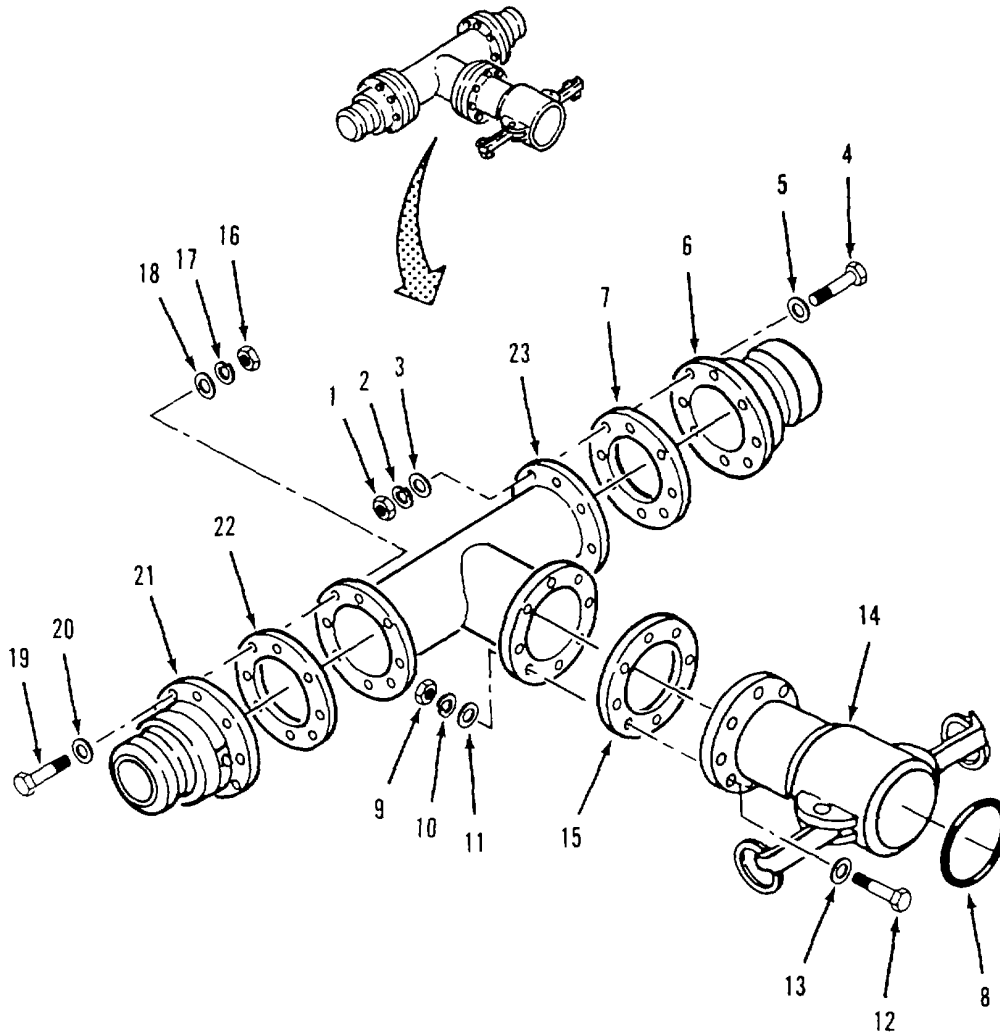

Figure 4-26. Tee Assembly (9112-Y4) Assembly
- e. Assembly. Refer to figure 4-26.
- (1) Position gasket (22) and male coupling (21) on tee (23).
- (2) Install eight flat washers (20), screws (19), flat washers (18), lockwashers (17) and nuts (16).
- (3) Position gasket (15) and female coupling (14) on tee (23).
- (4) Install eight flat washers (13), screws (12), flat washers (11), lockwashers (10) and nuts (9).
- (1) Inspect bonnet (10) and valve body (17) for cracks, scored mating surfaces, stripped threads and corrosion.
- (2) Inspect for bent stem (12) and galled or stripped threads.
- (3) Inspect sealing surfaces of discs (14 and 15) and valve body (17) for deep scratches and cracks.
- (4) Inspect male coupling (9, figure 4-26) for cracks and corrosion.
- (5) Inspect female coupling (19) and cap (3) for cracks and broken locking arms.